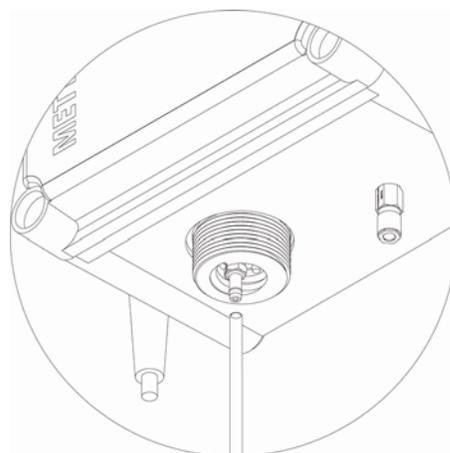

Figure 2. Suction Tube installation
8. Wearing clean protective gloves to avoid contamination, insert a silicone suction tube onto the suction fitting located in the bottle receptacle as shown in Figure 2. A fresh suction tube should be used for each calibration. Protective gloves and a replacement suction tube are provided with each calibration solution kit.